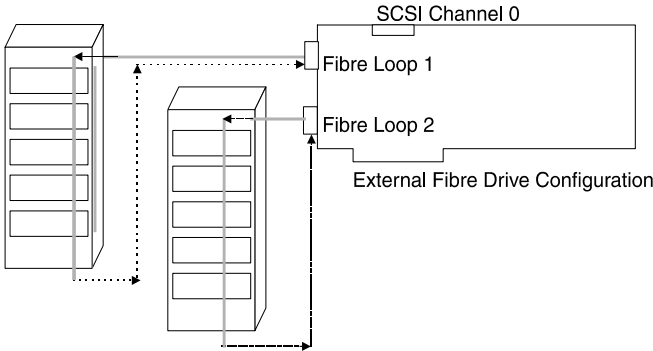

Figure 6. External Fibre Drive Configuration
8. Connect a Fibre cable, with the High Speed Serial Data Connector (HSSDC), to either one or both of the external Fibre connectors on the eXtremeRAID 3000 controller. Connect the other end of the Fibre cable, with a 9-Pin DSUB connector, to other devices or to a Fibre Channel Cabinet external drive cabinet, as required (see Figure 6).